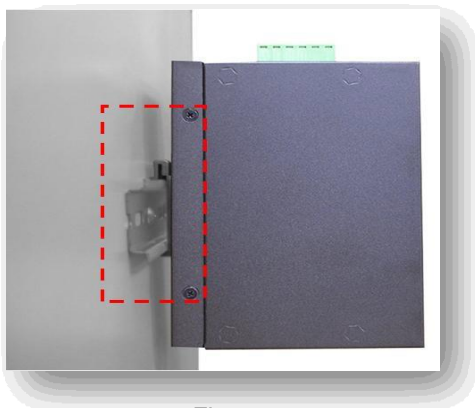

Figure 3.2
4. After the DIN-Rail bracket is installed on the rear side of the switch, insert the top of the DIN-Rail on to the track as shown below in *Figure 3.2*.